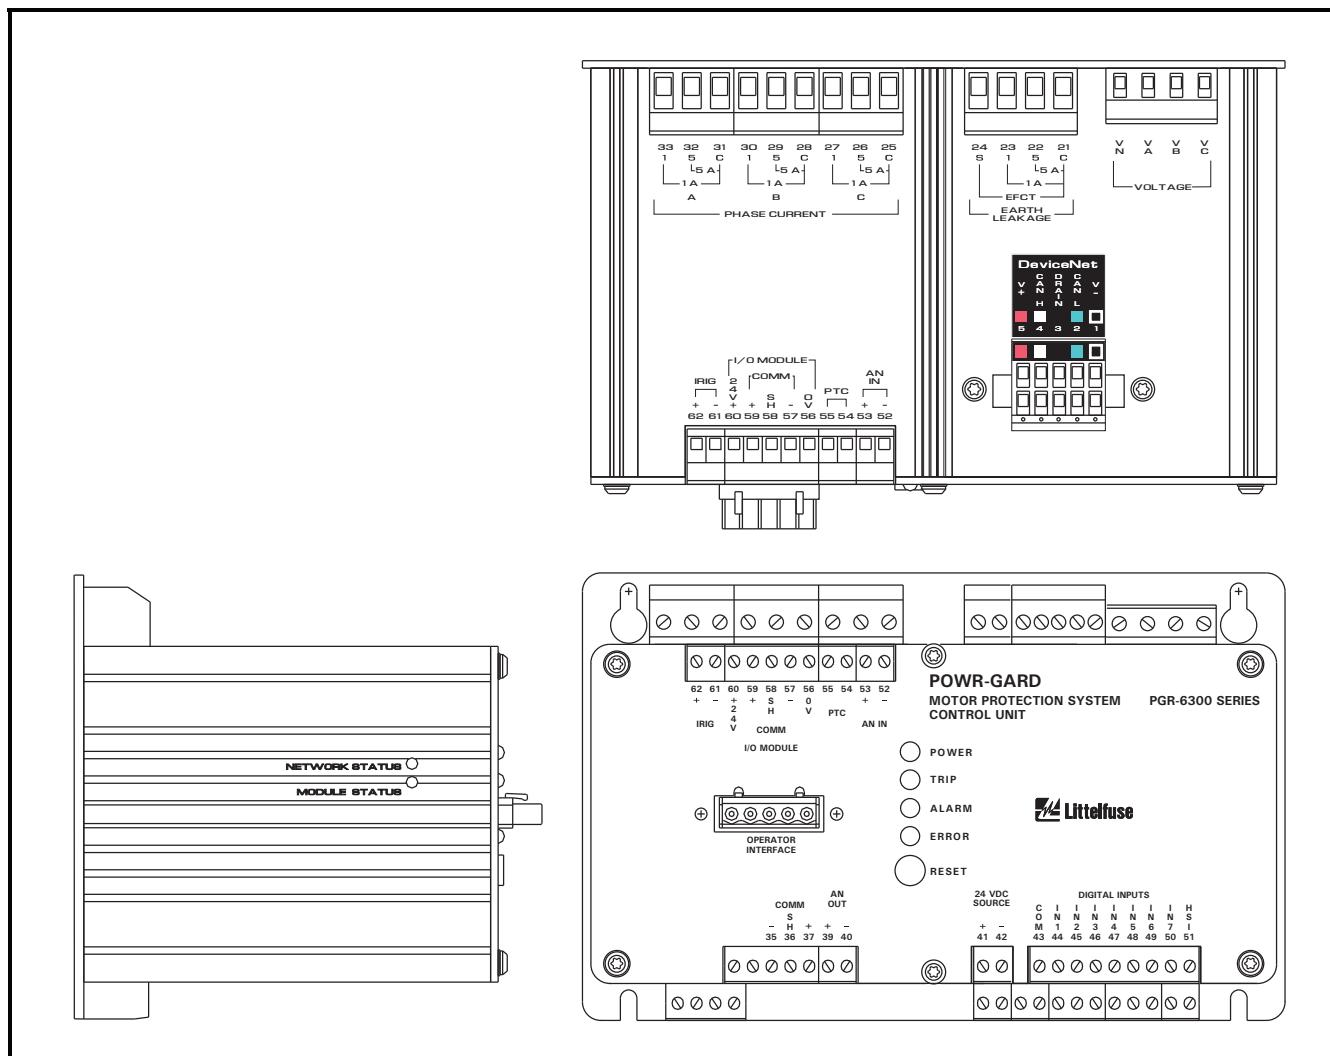

FIGURE 1. Outline Drawing.
Two LEDs labeled MODULE STATUS (MS) and NETWORK STATUS (NS) are located on the left side of the control unit as shown in Fig. 1. The MS LED is green when the DeviceNet driver is operational. If this LED is off, verify that DeviceNet is selected from the *Setup | Hardware | Network Comms | Network Type* menu.